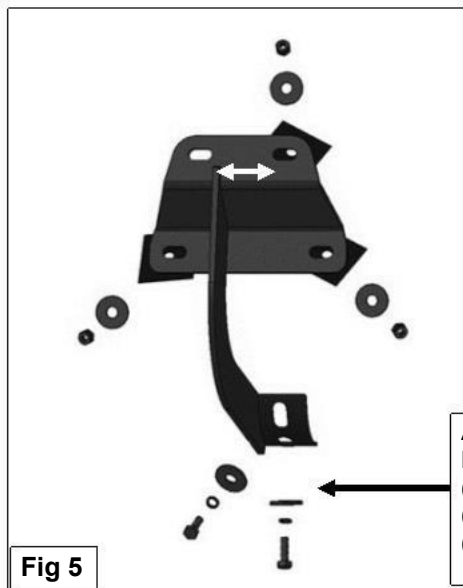

Fig 5
4. Repeat **Steps 1—3** to install the (2) remaining center and rear passenger side Brackets.
5. Select the passenger/right Sidebar. Carefully position the Sidebar onto the (3) Mounting Brackets. **IMPORTANT:** Do not slide, (front to back or rotate), the Sidebar on the Brackets or damage to the finish on the Sidebar may result. Attach the Sidebar to the Mounting Brackets with (6) 8mm x 25mm Hex Bolts, (6) 8mm Lock Washers and (6) 8mm Flat Washers, (Figure 5). Do not tighten hardware.